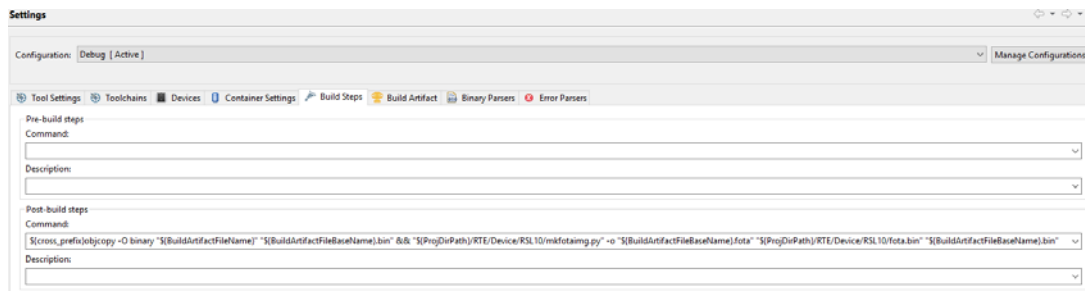

Figure 16. Post-Build Steps
7. Modify the project post-build steps (Figure 16) to generate the FOTA image in both Debug and Release build configurations, by going to **Project > Properties > C/C++ Build > Settings > Build Steps > Post-build**